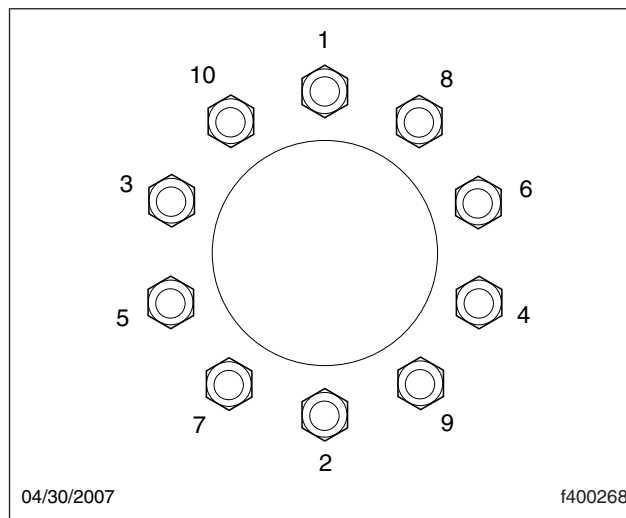

Fig. 17, 10-Hole Disc Wheel Tightening Sequence
11. Tighten the nuts in two stages. Follow the sequence in Fig. 17.
14. After operating the vehicle for 50 to 100 miles (80 to 160 km), tighten the wheel nuts again to the original specification, following the tightening sequence in Fig. 17.